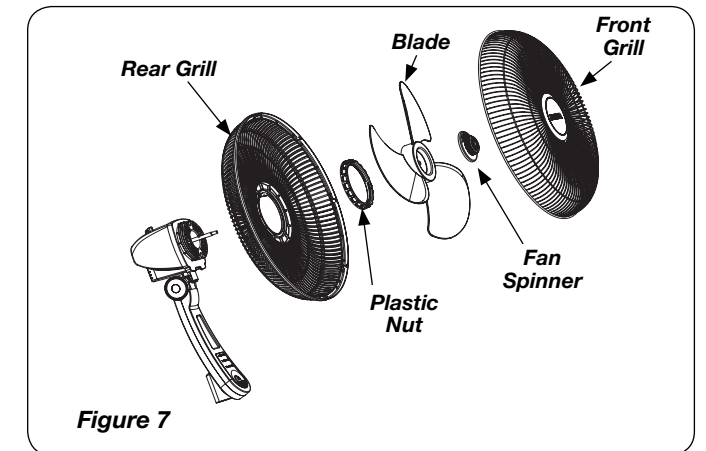
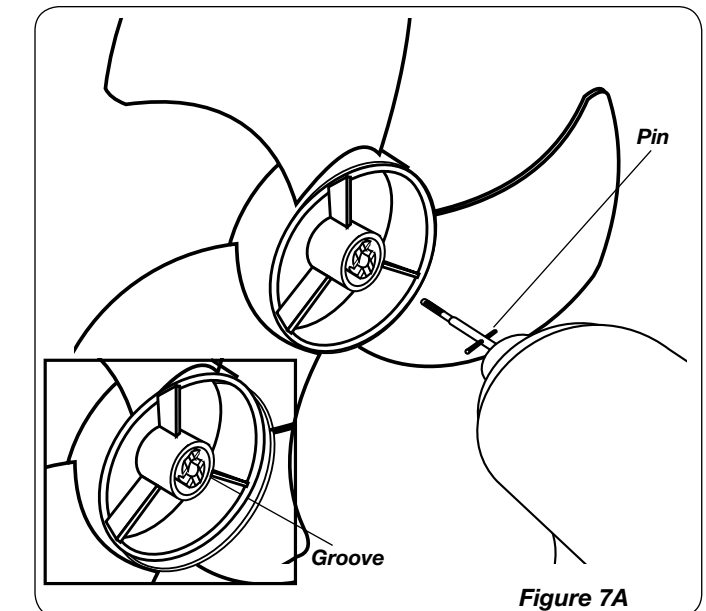

Figure 7
Figure 7A
1. Fully seat **Rear Grill** and secure with **Plastic Nut** turning Clockwise. Slide **Blade** onto **Motor Shaft**. (**Figure 7**) Align **Groove** on blade hub with **Pin** on motor shaft. (**Figure 7A**)